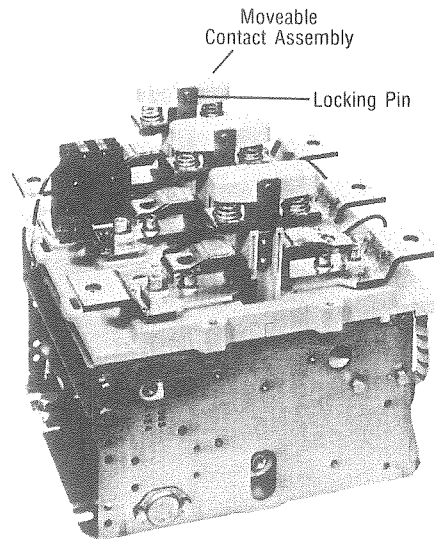

FIG. 3 — MAIN CONTACT RENEWAL
3. Press down on the movable contact assembly until the locking pins become loose. Then remove locking pins by sliding them to the right or left. See Fig. 3.